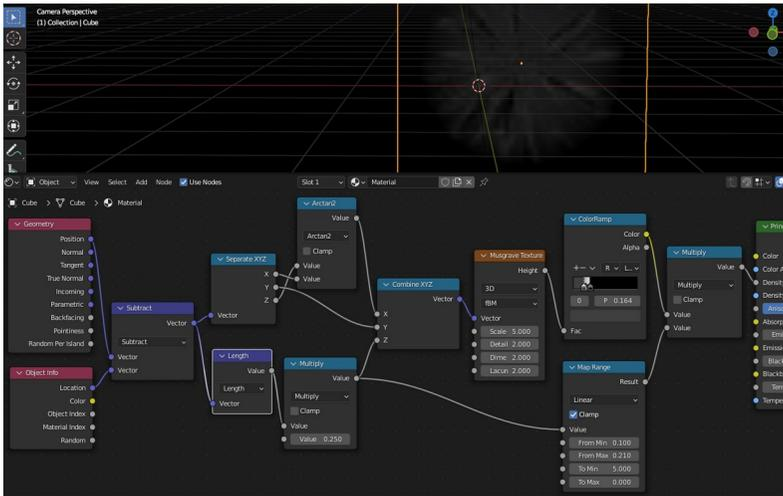

Figure 10-9 Completed Material Nodes for Radial Rays
4. You have only done the first part of the exercise, calculating the radial angle of each point, however there is a problem you should sort out now. Try moving the rays object and you will see that the center of the pattern is fixed to the global origin of the scene. This is because the geometry position is in the global frame of reference so, to get the position within the volume you must subtract the location of the center of the object. To do this use **Add ▸ Converter ▸ Vector Math**, and drop the node onto the pipe between the existing geometry position and the separate XYZ node, then change its mode to **Subtract**. Create a node with a Location output by selecting **Add ▸ Input ▸ Object Info**, and feed that into the other Vector input of the subtract node. The node arrangement should look like the left part of Figure 10-9 and now, if you move the rays object, you should find that the radial pattern moves too.
To make the density high in the middle, reducing to zero at the edges you could use some math nodes, or a color ramp node followed by a math node, but in Figure 10-9 you can see that I have introduced a map range node which can sometimes simplify the node tree. You may also notice the other change I made; connecting the Y location into the noise texture lookup. This has the effect of making the density vary